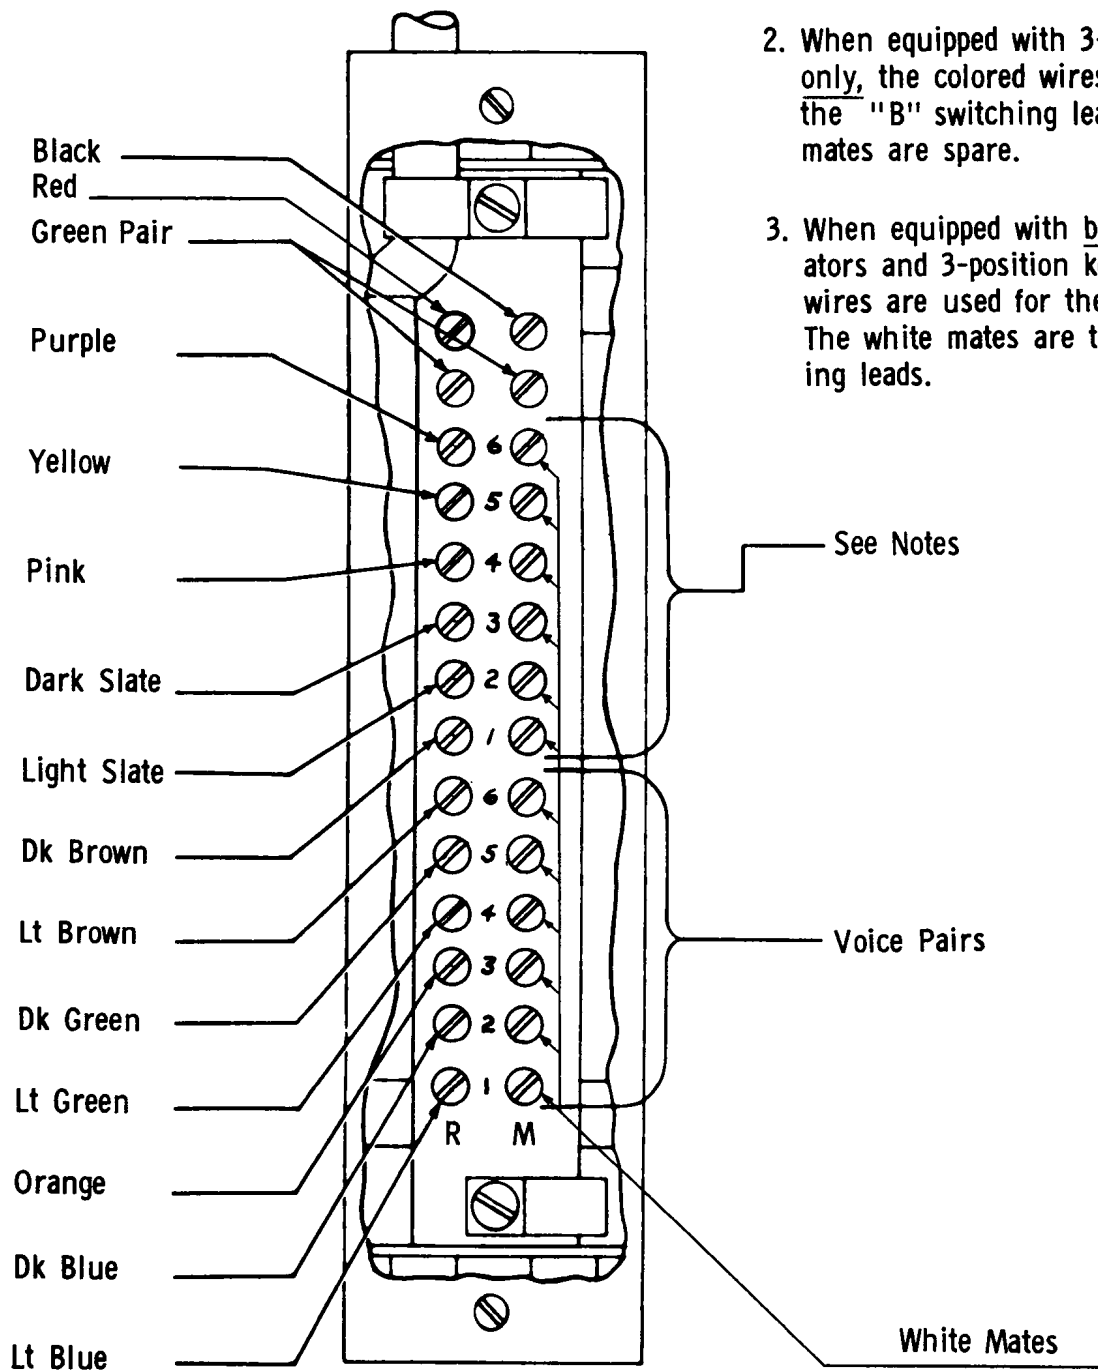

FIG. 1
5.02 Connect voice lines from the "floater" station to other master stations at terminals No. 1 at station No. 1, terminals No. 2 at station No. 2, and in this same manner to the other stations. (See Fig. 1 in Section C70.154).
5.03 At station No. 1 connect its green home pair terminals to the No. 1 terminals at all the other master stations. Connect the green home pair terminals of station No. 2 to the No. 2 terminals at all other master stations. Connect the remaining master stations in the same manner (see Fig. 1 in Section C70.154).